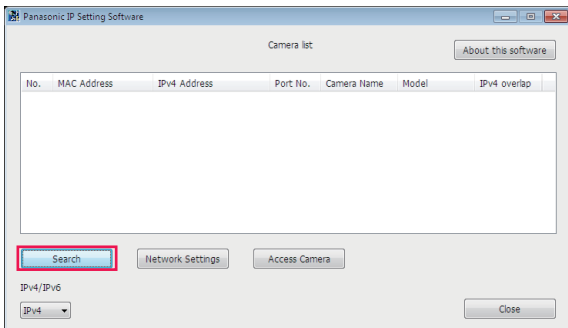
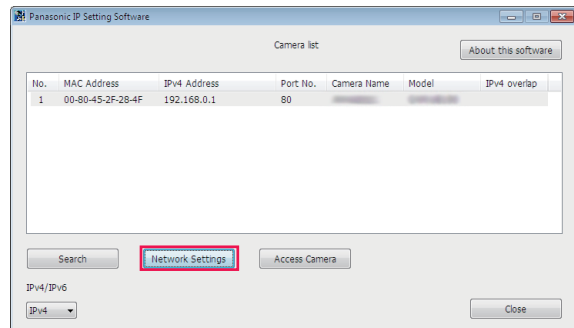

Fig. 1
Fig. 2
2 Click [Search]. (Fig. 1)
3 Click the MAC address/IPv4 address of the camera to set, and then click [Network settings]. (Fig. 2)
- [View Camera Screen] displayed on Fig. 1 and Fig. 2 does not function on this camera.